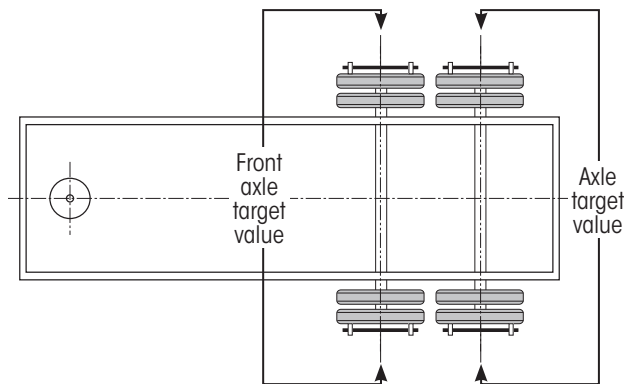

Figure 40: Point-to-point measurement for target values
1. **Measure** the point-to-point width of the installed wheel-end extenders (Figure 40).